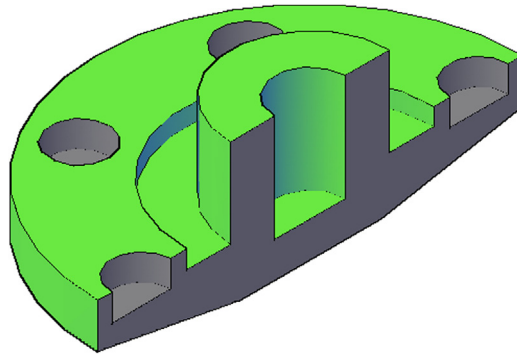

FIGURE 27.4
Step 5. Here, AutoCAD is asking which side of the slice you want to keep. Pick the one at the top of the screen by clicking on it or in its general area, and you see one half of the part disappear (Figure 27.4)